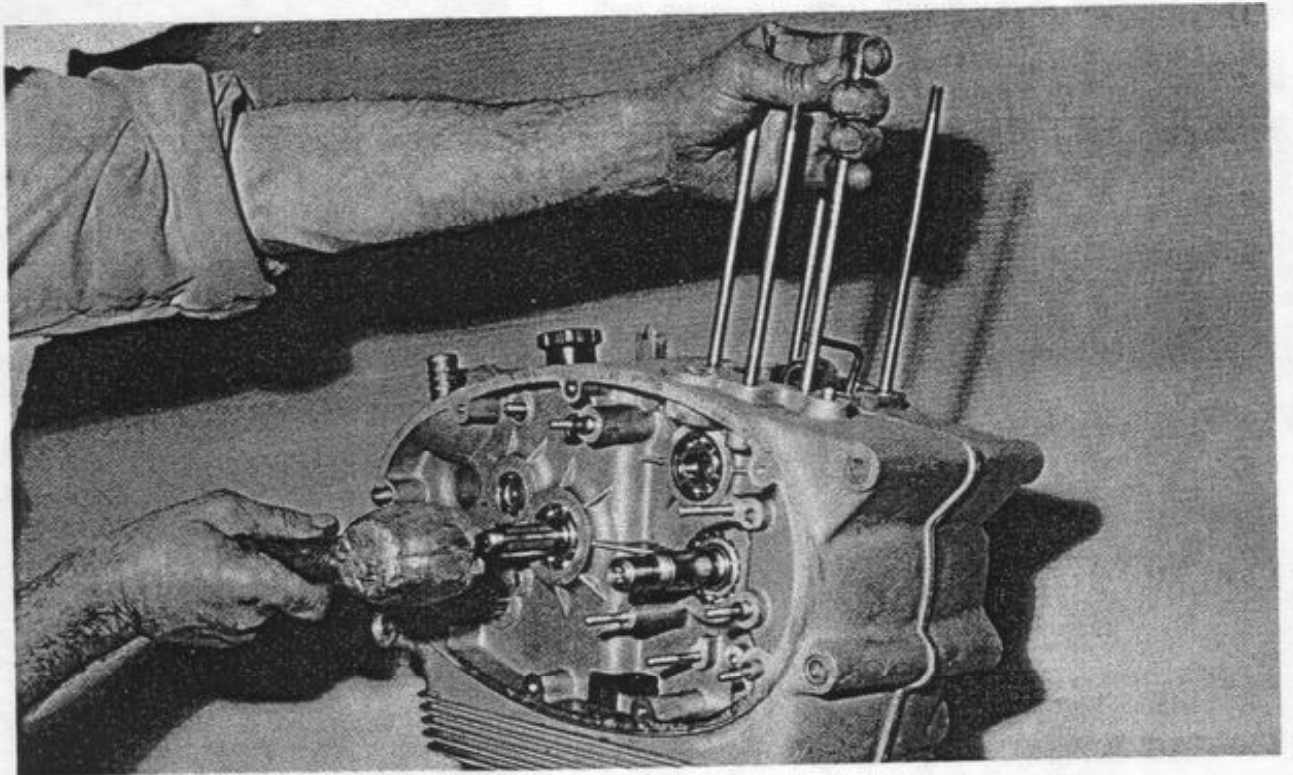

Figure 34.
8. Split apart the crankcase halves by tapping the primary shaft on the clutch side with a soft-faced mallet (Figure 34). Separate halves carefully to avoid damage and to keep inside gear shafts assembled on the left crankcase half (generator-sprocket side). Try to pull off the right crankcase half (clutch side) as a cover. Observe carefully the relationship of the inside parts. The relationship of the internal parts is also shown in the exploded views. Study both the exploded views and the assembled parts.